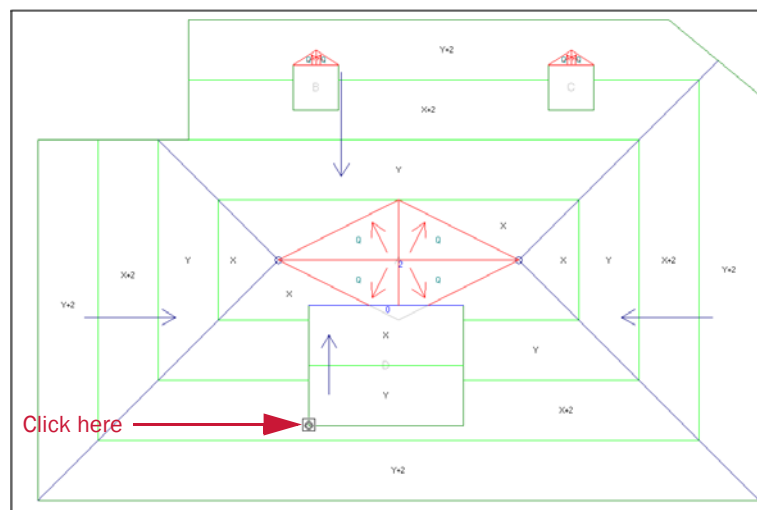

Figure 3-16 Select the bottom left corner of the interior roof
14. Place your cursor on the bottom left corner of the interior roof and click, as in Figure 3-16.